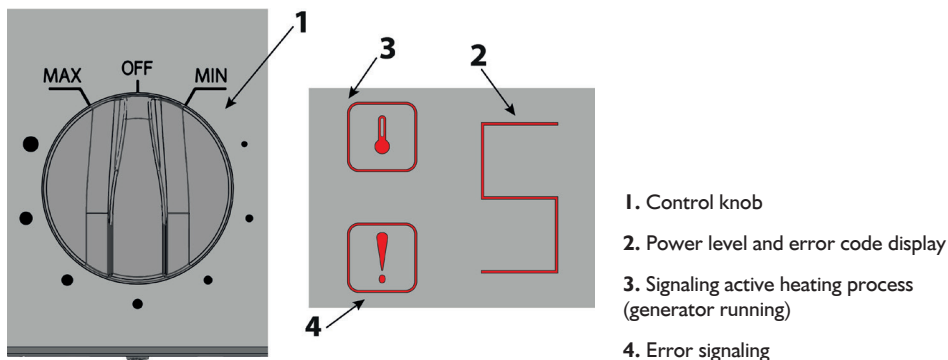

Figure 8. Device controls
- Prior to operation, the control knob (Fig.8 pos. 1) should be set to "OFF".
- Turn the knob clockwise and set the target power ("MIN" position - value 1, minimum power of the device, "MAX" position - value 9, maximum). The set power is shown continuously on the display (Fig.8 pos. 2) of the given heating zone located on the glass-ceramic hob. The lamp signalling heating - generator work - will light up (Fig. 8 pos. 3).
- During operation, heat is transferred to the glass-ceramic hob. After finishing work and setting the knob in the "OFF" position, the letter "H" will appear on the display (Fig. 8 pos. 2), meaning that the glass is hot and should not be touched, as it may cause burns. This symbol is displayed until the fans have cooled the hob to a safe level.